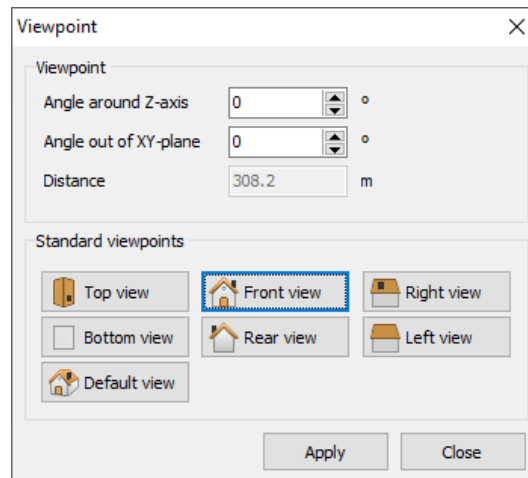

Figure 97: Viewpoint window
5. In the **Viewpoint** window select the **Front view** option as shown in Figure 97 (on page 123):